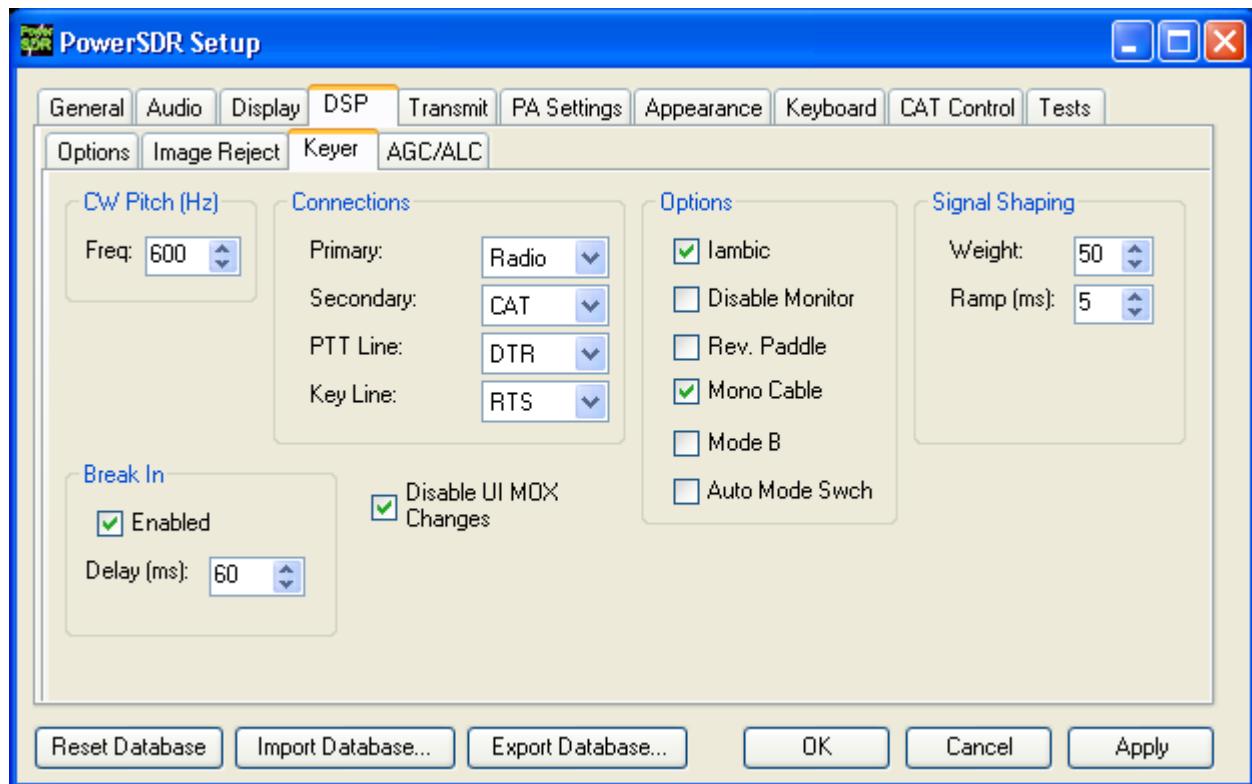

Figure 31: Setup Form – DSP Tab, Keyer Sub-Tab
2. Next, in PowerSDR open the **Setup Form – DSP Tab, Keyer Sub-Tab** shown in Figure 31 below to access the Internal Keyer controls.